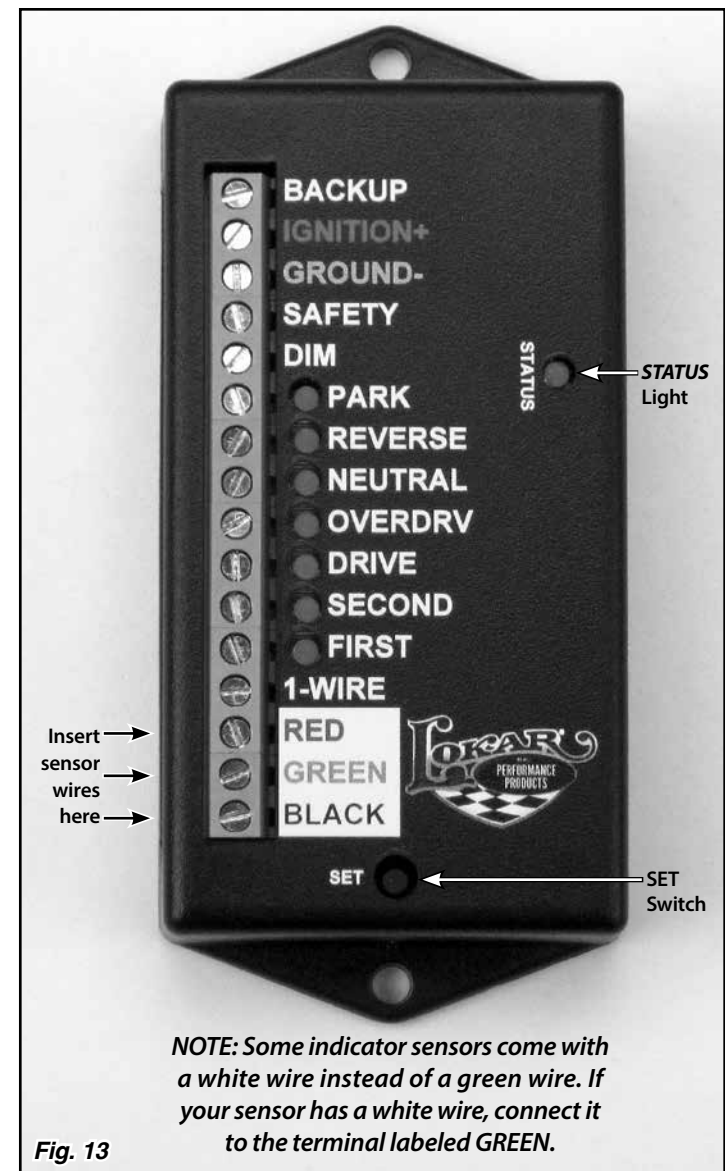

Fig. 13
The sensor has a 10 foot long cable attached to it. This cable contains three wires which connect to the decoder box: one red wire, one wire that can be either green or white, and one black wire. To connect the wires to the decoder box, use a small flat blade screwdriver to loosen the screw terminal. Strip 3/8" of the insulation off of each of the wires. Connect the red wire to the terminal marked RED. Connect the green or white wire to the terminal marked GREEN. Connect the black wire to the terminal marked BLACK. **Fig. 13**
Locate a fused (15A), switched 12V + power source that supplies power when the ignition key is in the "ON" or "RUN" position, but does not supply power when the key is off. (**NOTE: If you are going to use the optional Neutral Safety Relay discussed later, this wire will also need to supply power while the key is in the "START" position.**) Run a red wire (not supplied) from that power source to the decoder box. Join the end of that wire to the end of the red wire from the LED indicator. Insert the joined end of those wires into the "IGNITION+" terminal on the decoder box and tighten the terminal screw. **Fig. 13**
Connect one end of a black wire (not supplied) to a solid chassis ground. Join the other end of that wire to the black wire from the LED indicator. Insert the joined end of those wires into the "GROUND-" terminal on the decoder box and tighten the terminal screw. **Fig. 13**
Step 2: Press and hold the set switch. **Fig. 13** Turn the ignition key on while holding the set switch down. Then, release the set switch.